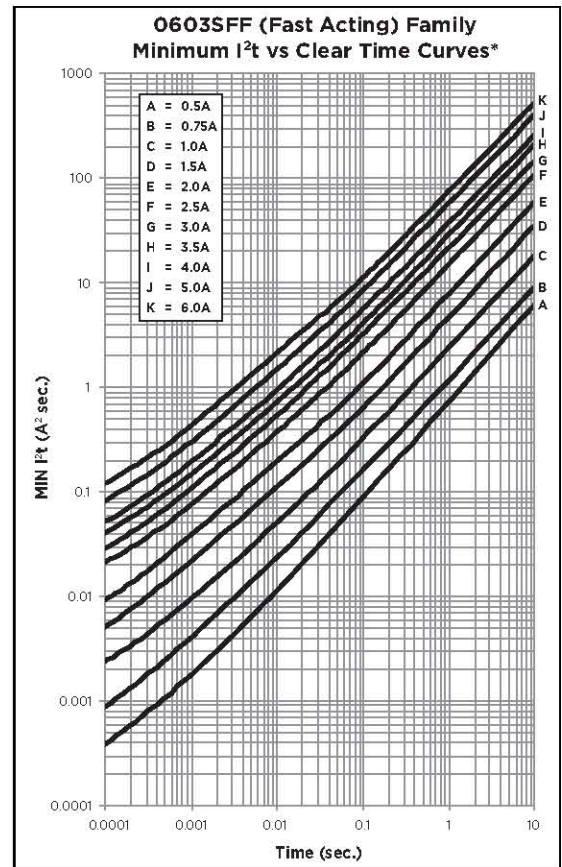

Figure 5. 0603SFF (Fast Acting) Family Minimum  $I^2t$  vs Clear Time Curves
- **Step 6—Select Fuse Current Rating for Pulse Environment**—Determine which fuse has an  $I^2t$  rating greater than  $I^2t_{\text{dpulse}}$  at .005sec. The minimum  $I^2t$  versus clear time can be found in Figure 5 for Fast Acting Fuses and Figure 6 for Slow Blow Fuses. (Larger charts are available in Appendices A and C).
Using Figure 5, the Fast Acting 0603SFF Family Minimum  $I^2t$  vs Clear Time curves, it can be determined that Curve H has an  $I^2t$  value greater than 0.365  $\text{A}^2\text{sec}$  at .005sec. This means that a 3.5A fuse, part number 0603SFF350F/32, would meet the pulse and cycle derating requirements for this application example. Refer to Appendix E for part number selection.